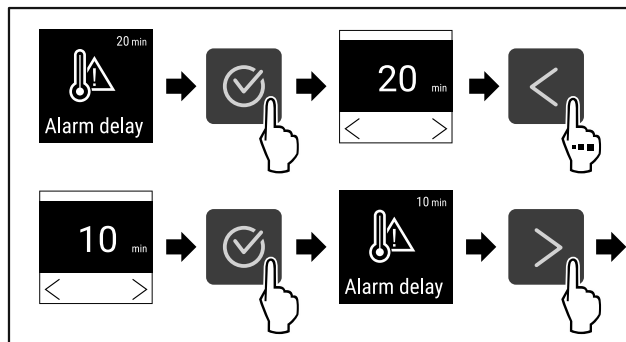

Fig. 128
- ▶ Complete steps (see Fig. 128).